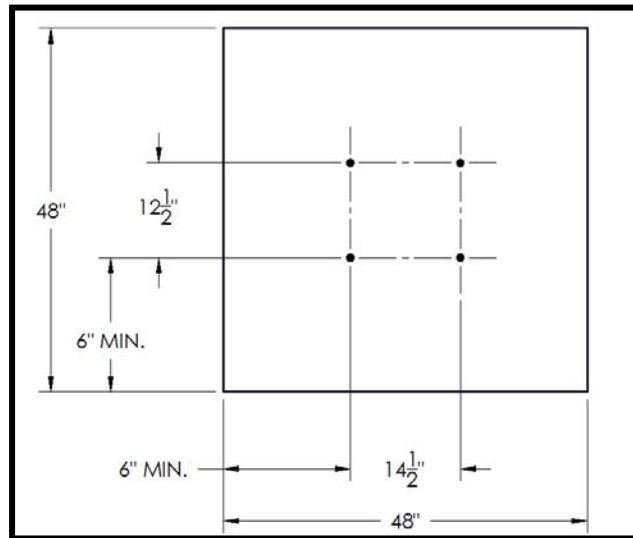

Figure 3 – vario DEPOT™ **Single Column** Anchor Hole Locations
- a) **Outdoor Installation Anchoring-** to properly secure your vario DEPOT™ mail stand to achieve 90 mph or 150 mph wind rating, we recommend the use of Hilti Kwik Bolt TZ anchors or similar anchoring systems. Locate where the base frame anchor holes are to be drilled using the foundation dimensions shown in *Figures 3 through 6*.